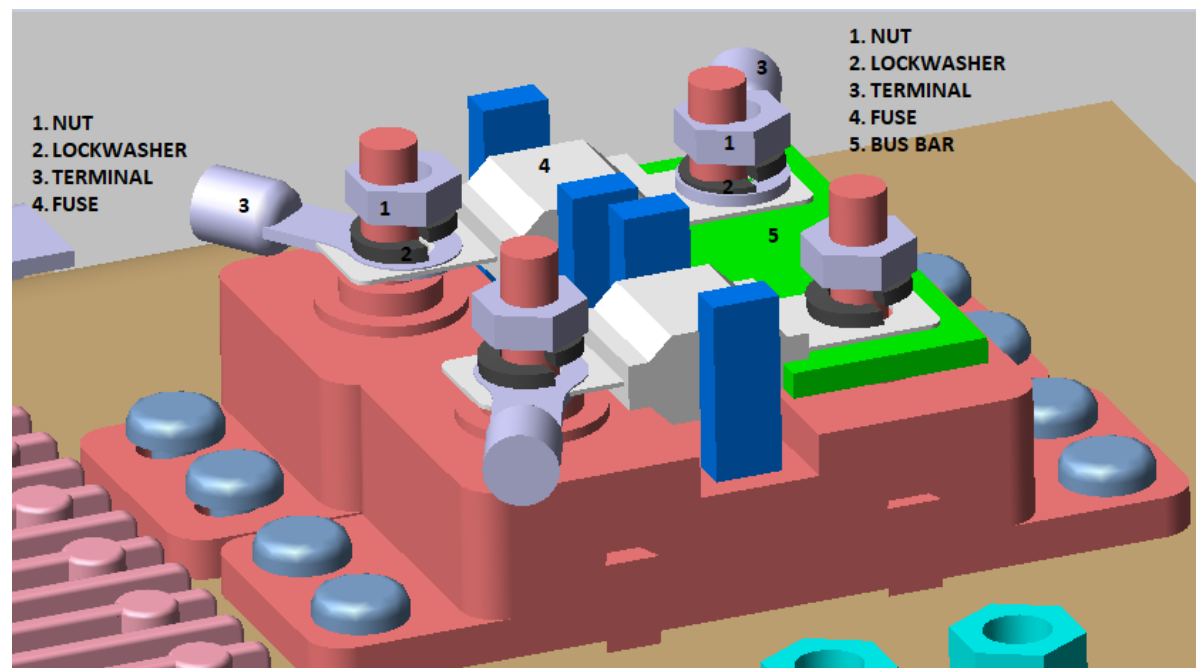

Figure 1
2. First inspect and verify that the Lock Washer (Item 2) is positioned under the nut (Item 1), then verify the fuses and power wires to the dual fuse block are properly oriented and secured (See Figure 1 and 2 below). Verify the nuts on fuse block are tight. Verify wires are not loose. *NOTE- Terminal (Item 3) should be on TOP of the fuse. See Figure 1 for proper alignment.
3. If lock washers are properly aligned, but nuts are loose, tighten nuts to 3-5 N-m (26-44 inch-lbs.). If lock washer is not beneath the nut, disconnect battery power (required) and reassemble per Figure 1. Be sure the wires to the fuses are connected, as shown in Figure 2.